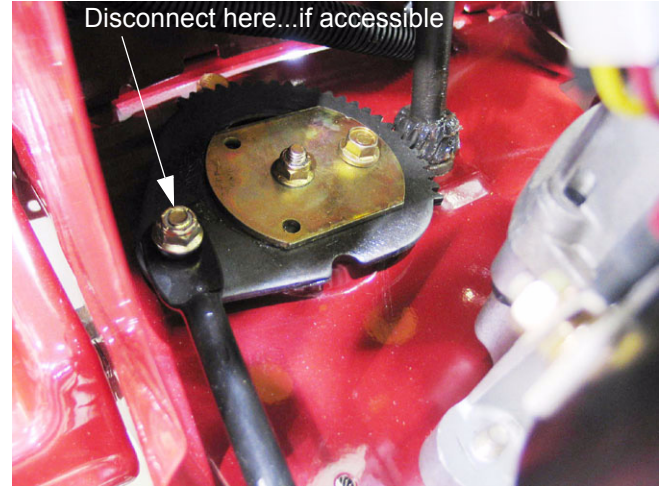

Figure 15.10
15.10. Depending on the nature of the repair that is to be done, and the engine that the tractor is equipped with, it may be easier to remove the steering arm and drag link along with the steering gear. See Figure 15.10.